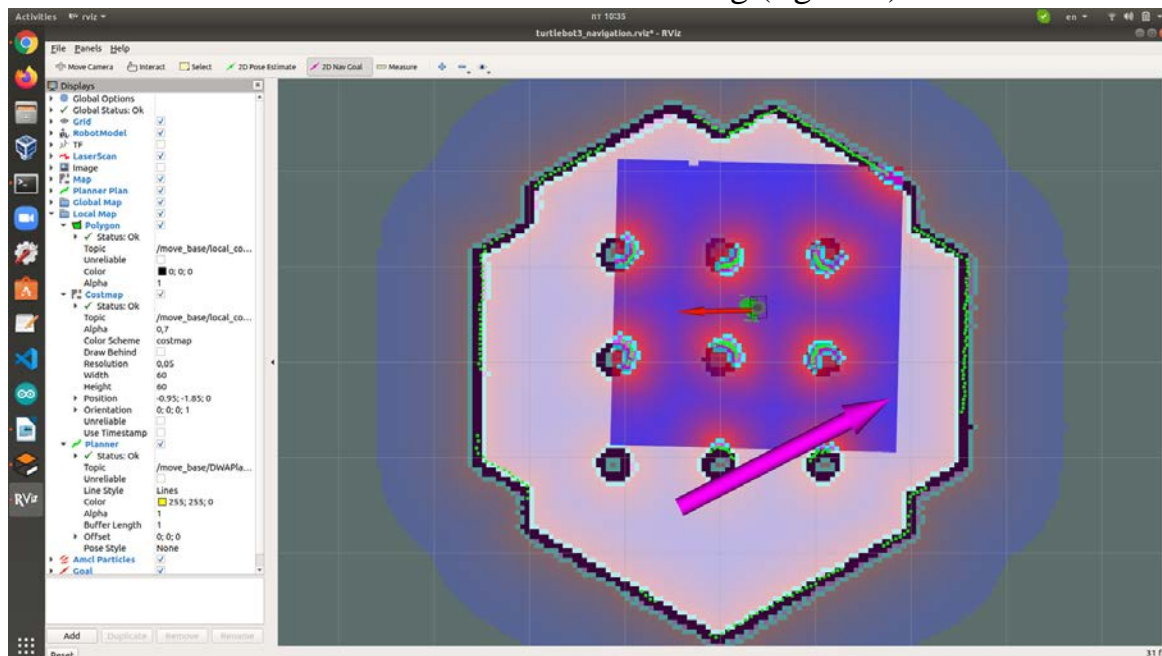

Figure 9. Setting goal for the navigation.
2. Click on the map to set the destination of the robot and drag the green arrow toward the direction where the robot will be facing (figure 9).